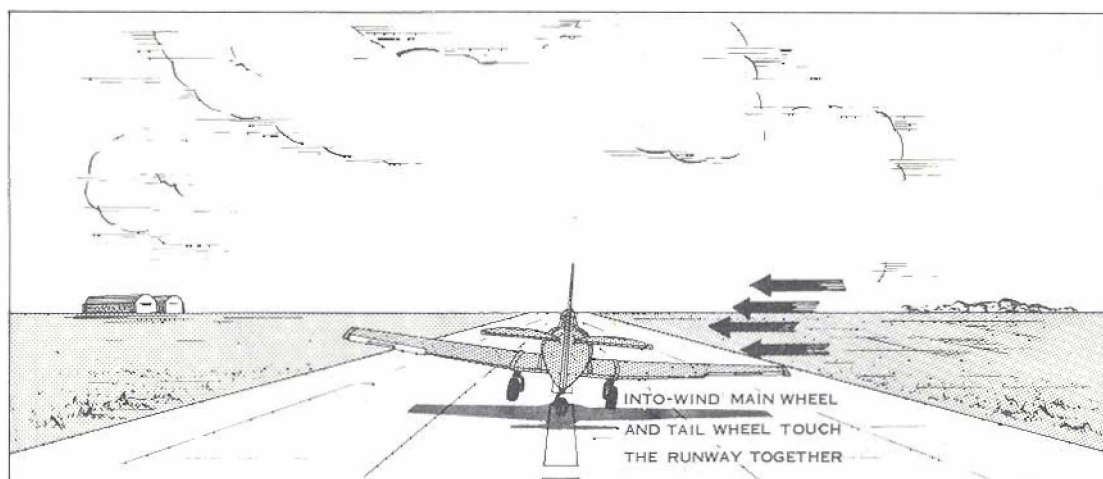

Figure 2: A Normal Crosswind Touch-down
(7) If a swerve develops, do not try to force the nose back to the original heading all at once: concentrate on stopping the turn, and then hold the aircraft steady until you are absolutely sure that you have positive control before attempting a realignment. Even if the aircraft runs off the runway, it is better to do so in a straight line, then to overcontrol and finish up by ground-looping in the opposite direction while remaining on the runway. Remember, there is no substitute for good judgement.
(9) **THE USE OF BRAKES** - Whenever you have to use the brakes, it is good airmanship to apply them smoothly and at a constant rate. It is possible to control direction with brake application alone, either to an individual wheel or to both wheels unevenly. But, owing to the excessive wear on the brake shoes and drums and the high degree of skill required, it is more desirable to use brakes in conjunction with rudder for directional control. To use the brakes properly, you should slide your feet up, as shown in Art 2.08 Figure 2, until your toes are on the brake pedals. In this way, you can hold on rudder pressure while applying brake. Thus, if the aircraft swerves at low speed while the rudder is ineffective, correction can be applied with swift, smooth brake pressure.
(13) The ideal after-landing roll is one in which the aircraft is under positive control at all times, and any swinging tendency is swiftly, but smoothly, corrected. Once the speed has diminished somewhat, brake can be applied to both wheels simultaneously to reduce the forward momentum to a safe taxiing speed.
wing down throughout the round-out so that the aircraft touches on the into-wind main wheel and the tail wheel. (Figure 2) As the speed decreases, the out-of-wind wing will drop and the other wheel will settle onto the runway. Maintain direction on the after-landing roll as explained in Art 6.04, and, as well as holding the control column fully back, keep on aileron to hold the up-wind wing down. Since a certain amount of down-wind rudder is being held on during the touch-down, the tail wheel, being turned in the same direction, will cause the aircraft to swerve slightly away from the wind. This is desirable since it counteracts any tendency for a swing into wind.
(3) The merits of the wing-down method are as follows.
(5) At the touch-down you must not allow the wings to become level. If you do, the aircraft will begin to drift sideways before it is firmly on the ground and it may cause a swing into wind. In addition, the sideways drift gives the aircraft a tipping or rolling motion, and puts a severe strain on the undercarriage. The effect is similar to skipping on take-off which is illustrated in Chapter 4, Figure 2.